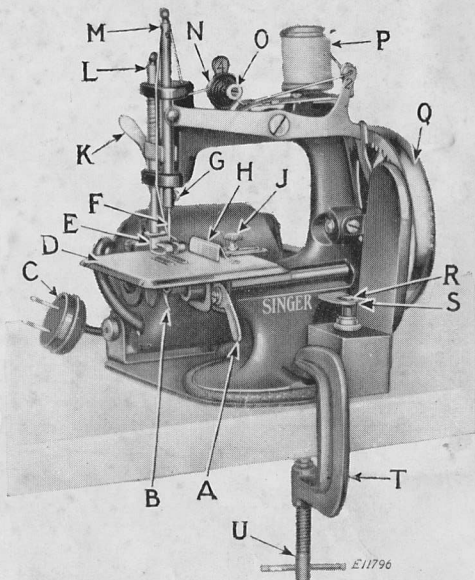
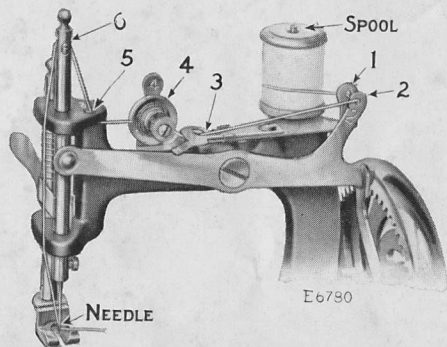

Fig. 2
FIG. 4. THREADING THE NEEDLE
The clamp (T, Fig. 2) is furnished for fastening the machine to a table or desk, if desired. The wooden handle and the two screws also furnished with the machine, are **not used** unless the motor is removed, for operation by hand.
Press down on the switch (R, Fig. 2) and the lever (S) at the same time; this will start the motor. Release the lever, and the rubber roller back of the hand wheel will touch the rim of the wheel and drive the machine.
Turn the hand wheel (Q, Fig. 2) over from you until the needle bar (M, Fig. 2) moves up to its highest point. With the screwdriver, loosen the set screw (G, Fig. 2) in the lower end of the needle bar, take out the old needle and put the new needle up into the bar as far as it will go, with its flat side toward the right and the long groove in the needle at the left, then firmly tighten the set screw (G).
(SEE FIG. 4)
Raise the presser foot (E, Fig. 2) by turning up the presser bar lifter (K, Fig. 2). Place the material beneath the presser foot and lower the presser foot. Lay the forefinger of the left hand gently on the end of the thread and turn the hand wheel (Q, Fig. 2) over from you in the direction indicated by the two arrows on the hand wheel, until the first stitch is made. Then place the end of the thread back under the presser foot and commence to sew.
The length of stitch is regulated by the lever (A, Fig. 2, page 2) under the cloth plate. To make a longer stitch, move this lever away from you. To make a shorter stitch, move the lever toward you.
The tension on the thread is automatic and seldom requires changing. When the needle is at its highest point, the nipper lever (3, Fig. 4) is raised and the tension on the thread is released so as to allow the needle bar to draw off sufficient thread for the next stitch. If the stitches are so tight that they pucker the material, loosen the tension by turning to the left the thumb nut (O, Fig. 2) at the front of the tension discs. If the stitch is too loose, tighten the tension by turning the thumb nut to the right.
To guide the work accurately when sewing close to the edge of the goods, the cloth guide (H, Fig. 2, page 2) should be used. Fasten the cloth guide to the cloth plate of the machine by means of the clamping thumb screw (J, Fig. 2), inserting the thumb screw into the screw hole in the cloth plate. The cloth guide can be adjusted to bring the edge of the goods as close to the line of stitching as desired. If desired, the cloth guide can be removed from the machine.